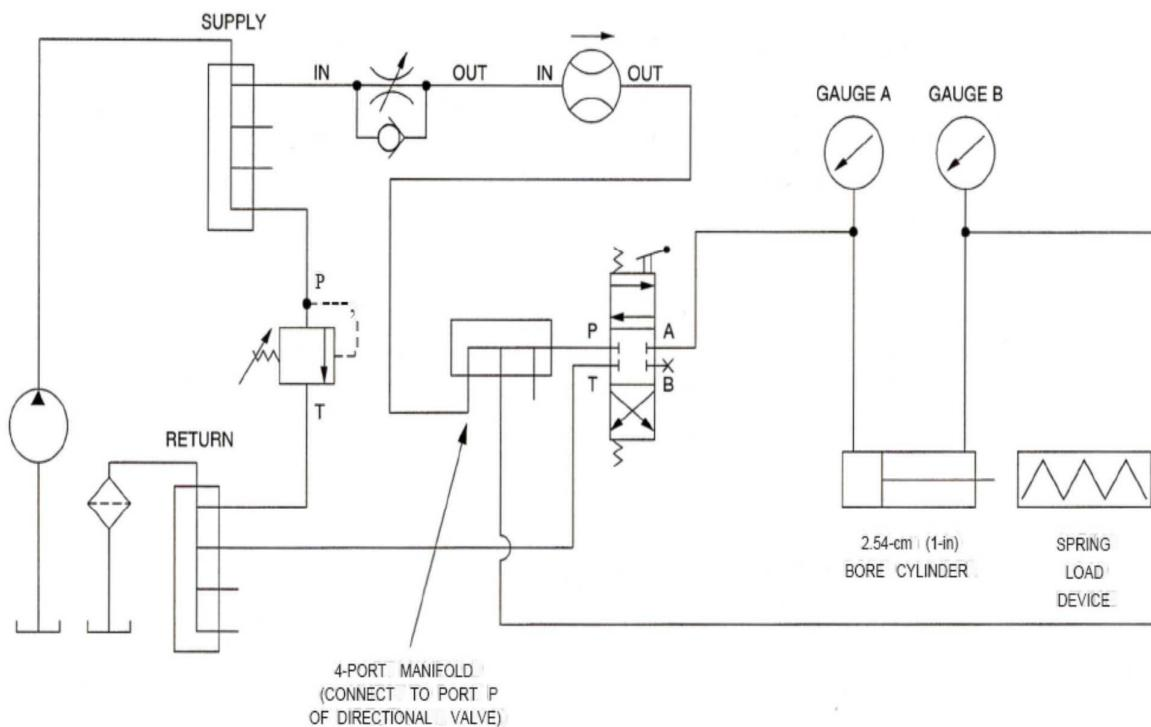

Fig.1 Cylinder in a regenerative circuit.
- Connect the circuit shown in Figure 1. In this circuit, the Flow Control Valve will be used to reduce the flow into the circuit so the cylinder speed is easier to time.
- Change your circuit into a regenerative circuit. To do so, disconnect the rod end of the cylinder from port B of the directional valve, then connect the rod end to the 4-port manifold installed on port P of the directional valve, as shown in Figure 1.
- Disconnect the 2.54-cm (1-in) bore cylinder from the circuit. Remove the cylinder from its adapter by unscrewing its retaining ring. Make sure the cylinder tip (bullet) is removed from the cylinder rod end. Screw the cylinder into the Loading Device. Then, reconnect the cylinder into the circuit as shown in Figure 1.